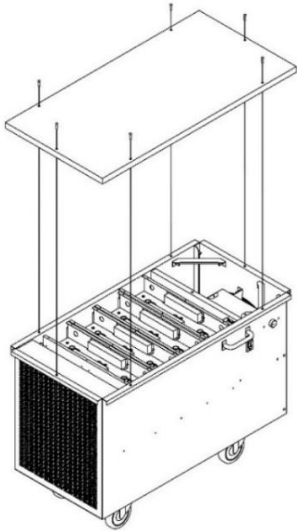

Figure 26
3.) Disconnect 2 pin MOLEX connector providing power to Catalyst Panel. See Figure 26.
8.) Reattach the lid and re-insert (6) screws and tightening with an Allen wrench. See Figure 26.